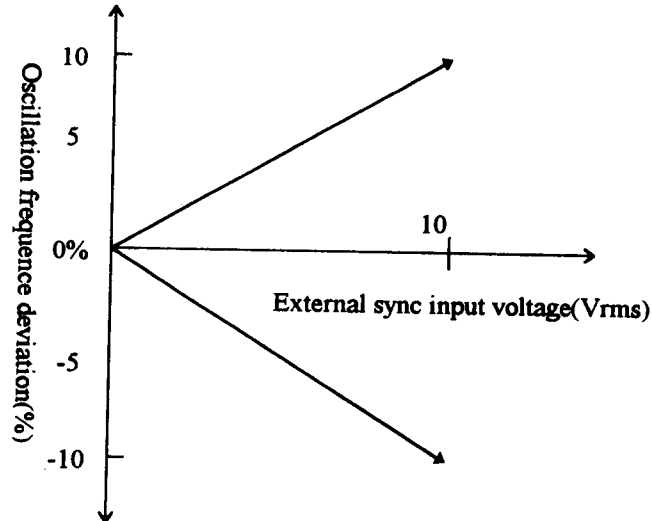

Fig.3
1. Connect a voltmeter capable of measuring AC 1V rms to OUTPUT terminal (4); Set ATTENUATOR (3) to 0dB and then adjust AMPLITUDE (7) until the voltmeter indicates 1V rms. A voltage of 1V rms will appear at OUTPUT terminal (4).
2. Set ATTENUATOR (3) to -40dB. The voltmeter indicates about 0V, while a voltage of 10mV rms appears at OUTPUT terminal (4).
5. Use of Synchronizing Input Terminal By applying an external sine wave signal to SYNC terminal (10), the oscillating frequency of instrument can be synchronized to the external signal. The synchronizing range is increased in proportion as the input voltage is increased as shown in Fig. 3, indicating that the synchronizing range is about $\pm 1\%$ per input voltage of 1V.